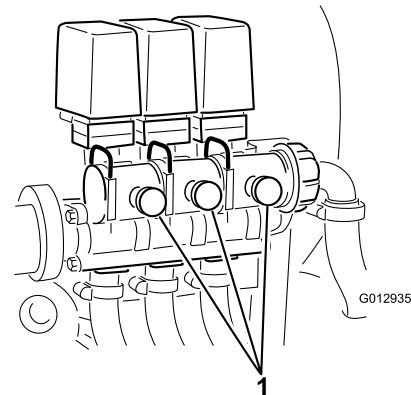

Figure 29
12. Adjust the boom bypass valve (Figure 29) on the boom control valve for the boom you turned off until the pressure reading on the gauge is the same as it was in step 9.